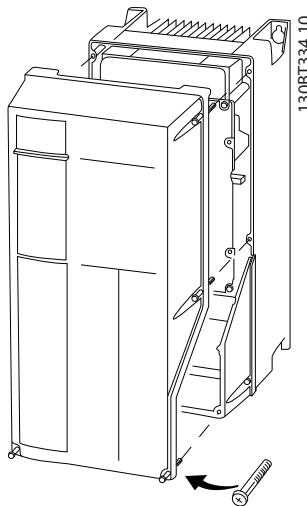

Figure 2.14 Control Wiring Access for A4, A5, B1, B2, C1 and C2 Enclosures
- Or remove front cover by loosening attaching screws. See Figure 2.14.